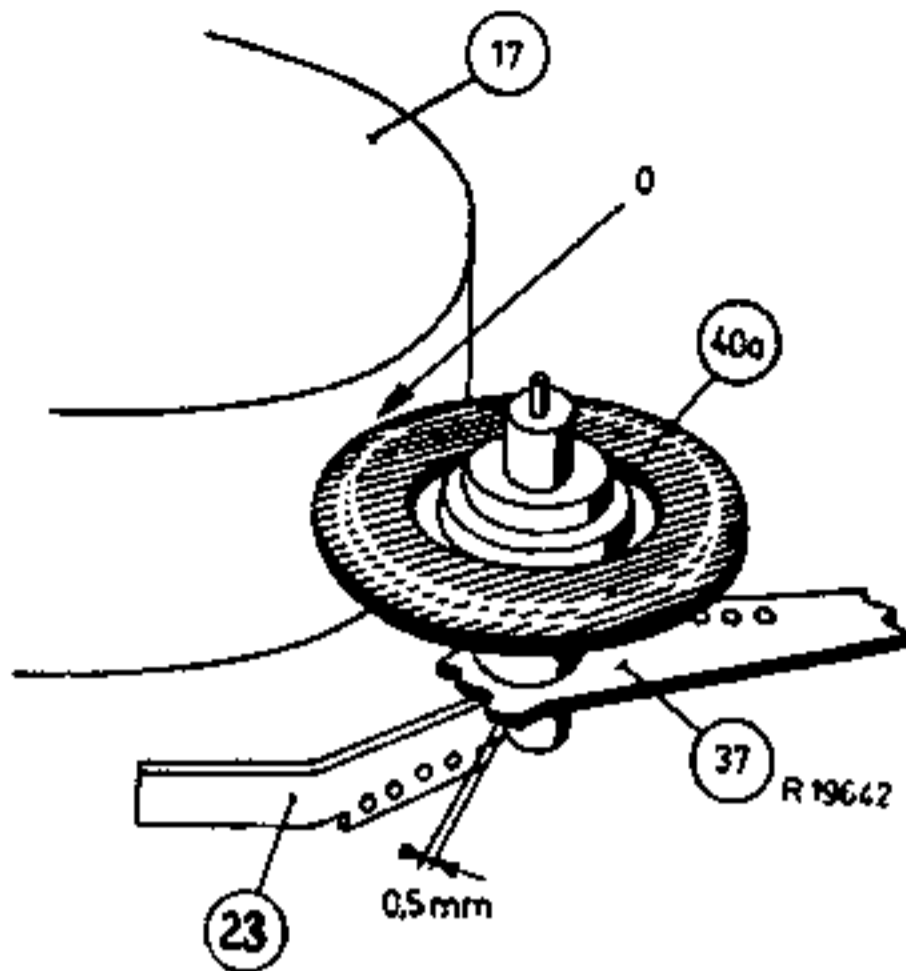

FIG. 5
**(a) Stop bracket adjustment.** If the "play" button is depressed to the point where the rubber clutch wheel is just touching the flywheel, there should be a gap of 0.5 mm. between the stop bracket 23 and insert hub on coupling bracket 37. This can be adjusted, if necessary, by bending stop bracket 23 (see Fig. 5).